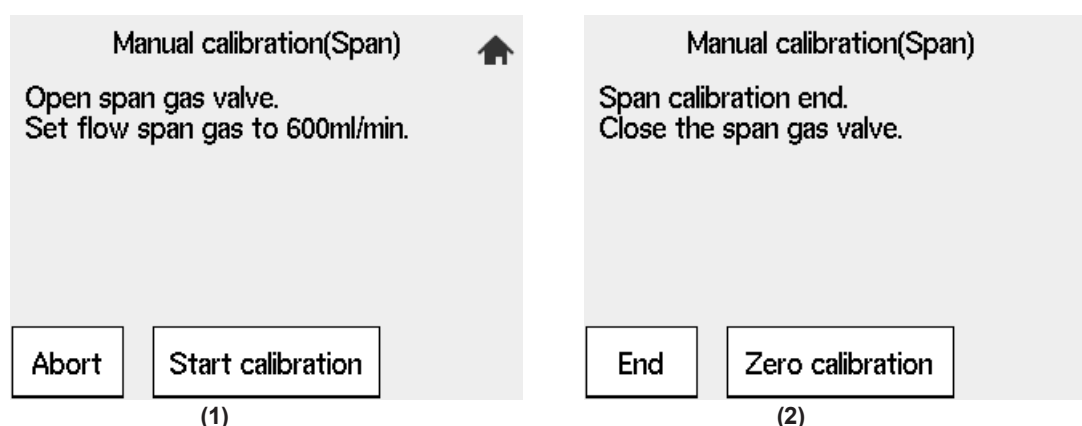

Figure 10.31 Span Gas Manual calibration
- (1) When the display shown in Figure 10.31 (1) appears during calibration, open the span gas flow setting valve of the flow setting unit and adjust the flow rate to 600 ± 60 ml/min. Turn the valve slowly counterclockwise after loosening the lock nut if the valve has a lock nut. To check the flow rate, use the calibration flowmeter. If the sample gas pressure is extremely high, adjust the sample gas pressure to obtain pressures (listed in Table 10.11) ± 10%.
- (2) Adjust the flow rate and select "Valve opened" from the Manual calibration display. Check the Trend graph display to see that the measured value is stabilized. Then press the [Enter] key. The Manual calibration display shown in Figure 10.31 (2) appears.